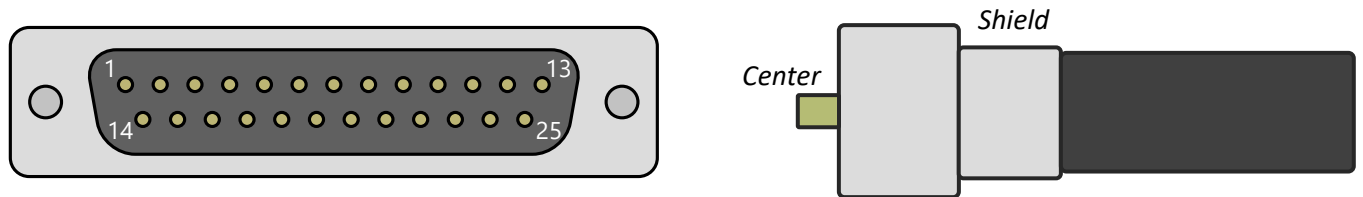
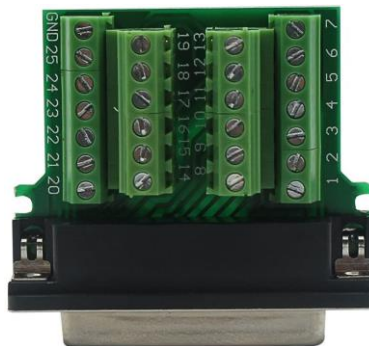

Figure 5: Male DB25 connector pin layout and Coaxial Cable Connector
Figure 6: Male DB25 field splice connector pin layout
Step 2: Hold it so you are looking at the pins with them pointing at you or open the back shell of the DB25 field splice. Orient the connector so the row with 13 pins is on top, now the upper left-hand pin is pin 1. See figure 5 (above) for reference. You may also open the case of the connector if using a screw terminal style connector and reference the pin number marking on the PCB (see figure 6 above).